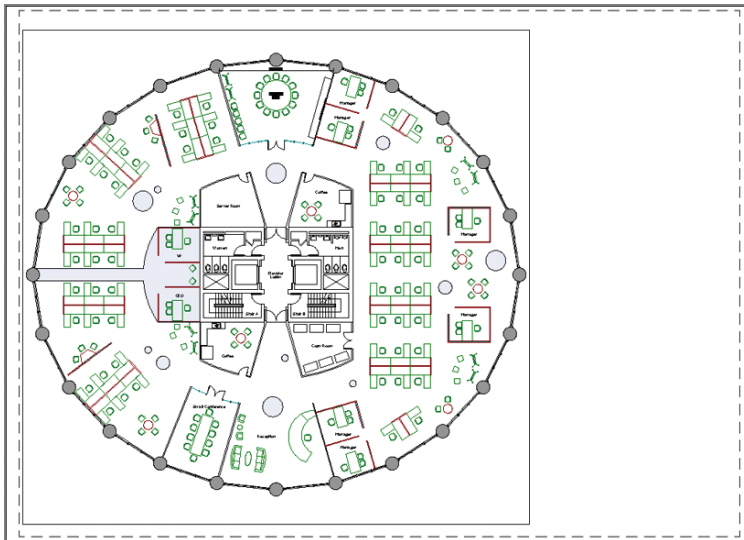

FIGURE 13.17 The drawing fits the paper at $3/16''$ scale (or 1:50 in metric)
9. Double-click the paper outside the viewport to switch back into paperspace. Select the viewport, and grip-edit it so that it closely surrounds the plan geometry. Move the plan to the left on the paper to make room for another drawing on this layout. Figure 13.17 shows the result.